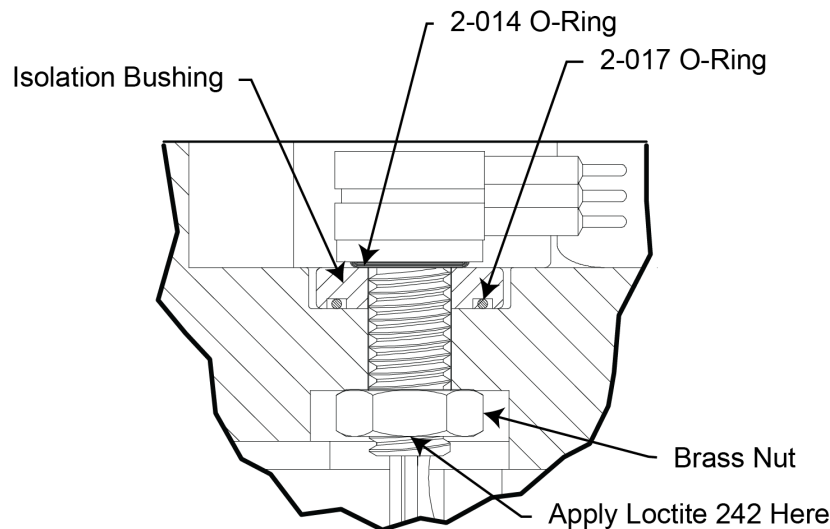

Figure 56. End-Cap Connector with Isolation Bushing
3. Systems with a metal end-cap use an isolation bushing and 2-017 O-ring between the end-cap and the 7-pin connector. Press the new bushing and O-ring onto the end-cap as shown in Figure 56.